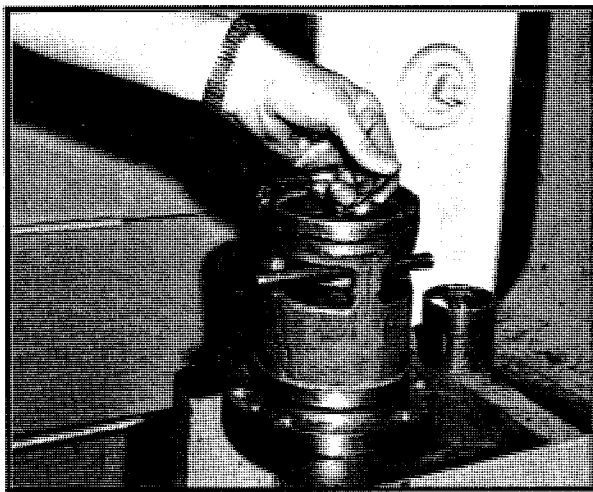

Figure 3-4 Removing Retaining Ring
8. Remove spirolax retaining ring (Item 1) from cylinder (Item 16). Seal ring (Item 2) and O-ring (Item 3) may be removed. Reference Figures 3-4, 3-5 and 3-6.